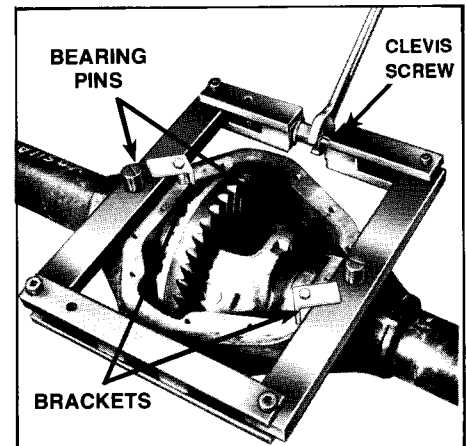

FIGURE 1
- See Figure 1. The bearing pins (#1) have a 7/8" dia. thread on one end and a 1" dia. thread on the other end. Place the spreader on the carrier housing, and determine which threaded end of the pin should be used.
Warning: To prevent personal injury, the brackets (#7) must have maximum contact with the flat, parallel surfaces on the carrier housing and the bolsters. See Figure 1.